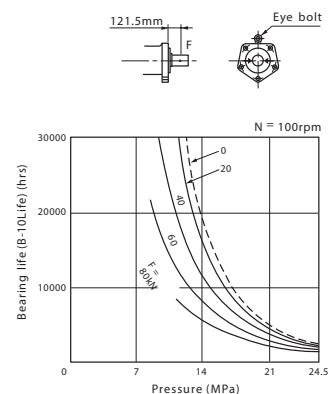

Fig. 3
2. In order to maintain the maximum bearing life, when a radial load is imposed on the output shaft the motor should be installed as illustrated in Fig. 2 or Fig. 3; For a uni-directional application, motor should be installed so that side load acts as shown in Fig. 2. For a bi-directional application, a radial load for each rotational direction being applied, the motor should be installed so that side loads act as shown in Fig. 3.